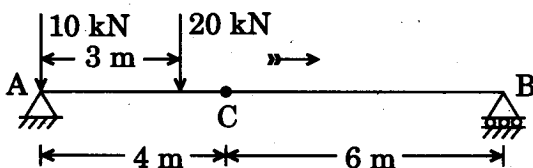

Figure 1
- (a) For the two concentrated loads (fixed base) moving on a simply supported beam AB as shown in Figure 1, which condition will give the maximum bending moment at 'C' ?